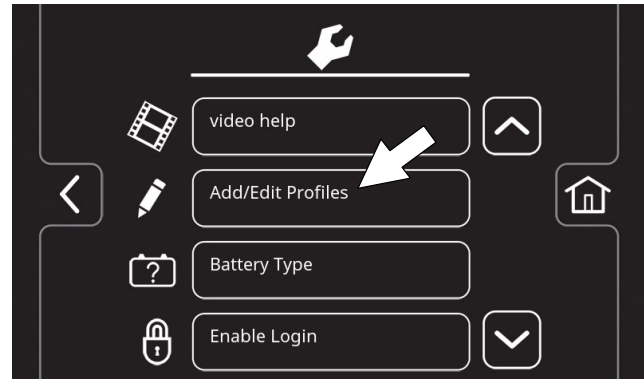

FIG. 168
- Press the Add/Edit Profiles button to enter a new user profile (Figure 168).